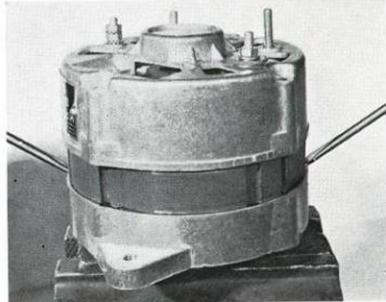

Fig. 3-31. Disassembling alternator
5. Remove the stator and slip ring end shield with the help of two screwdrivers, which are inserted in two of the sockets between the stator and drive end shield, see Fig. 3-31.